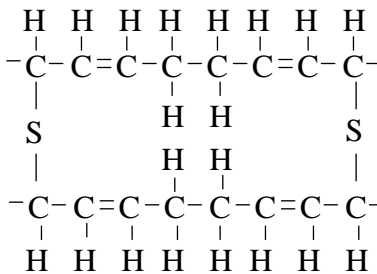

Figure 4. Vulcanized rubber.
5. Describe crosslinking. What is the difference between the bonds formed in crosslinking and those formed in polymer synthesis? [*A process that makes a polymer more rigid and resistant to heat. As shown in Figure 3, the cross-links in slime are hydrogen bonds. In the case of butadiene, the vulcanization process with sulfur cross-links the polybutadiene chains with covalent bonds as shown in Figure 4. (See also Group Discussion—additional suggestions about vulcanization.)*]